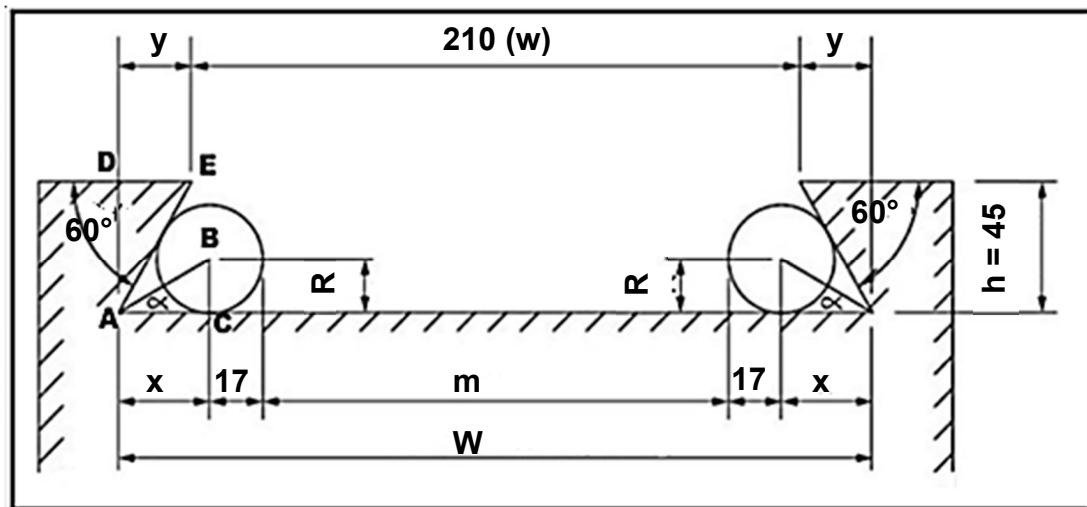

FIGURE 5.4
5.4 An internal dovetail must be cut as shown in FIGURE 5.4 below.